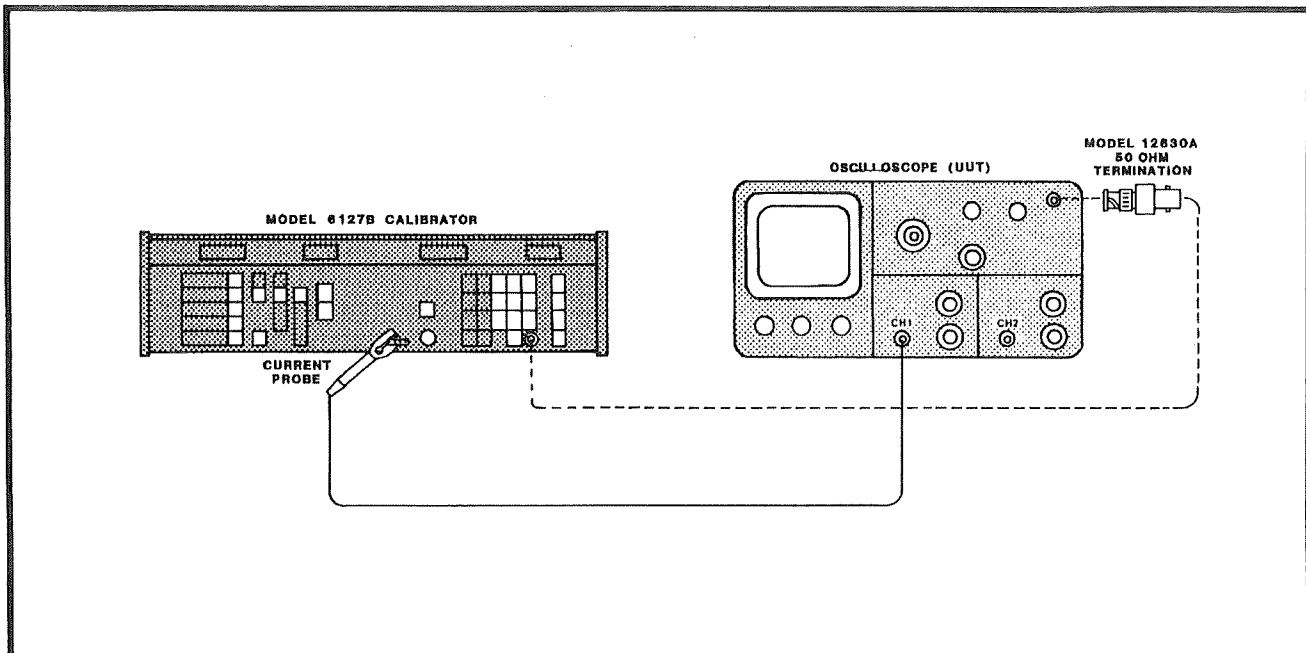

Figure 3-7. Milliamperes/Div Mode, Equipment Set-Up
a. Connect the equipment as shown in Figure 3-7. (Refer also to Table 3-6.)